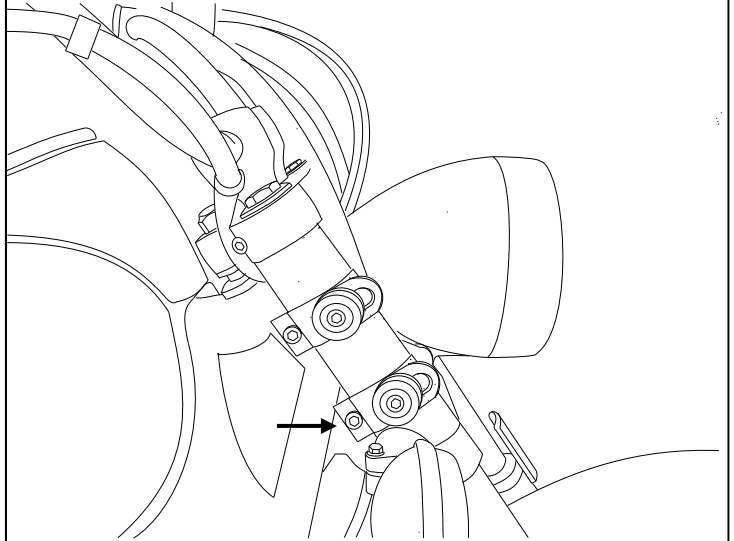

Fig 3
5. Start with each fork clamp bushing adjusted to the rear of the slot. (See Fig 3)